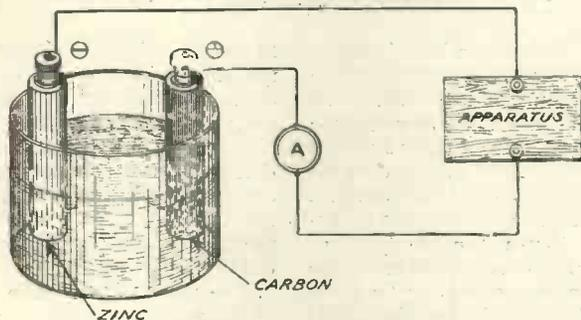

Fig. 1.—A simple test.
These cells are simply a special form of the Leclanché cell, which is so much used for working electric bells. In its simplest form this cell consists of a glass jar in which are placed a positive element of carbon and a negative element of zinc, the electrolyte being a solution of sal ammoniac and water. If such a cell, which has a commencing E.M.F. of about 1.5 volts, is connected as shown in Fig. 1 to any kind of apparatus the ammeter (A) will register quite a respectable current for a short time. Very shortly, however, the needle will begin to fall back, and if the apparatus is left connected up the current will fall away in a short time to zero, or very nearly so. If now we disconnect the cell and after leaving it for a few hours connect it up again, we shall find that the current supplied is once more quite a good one.